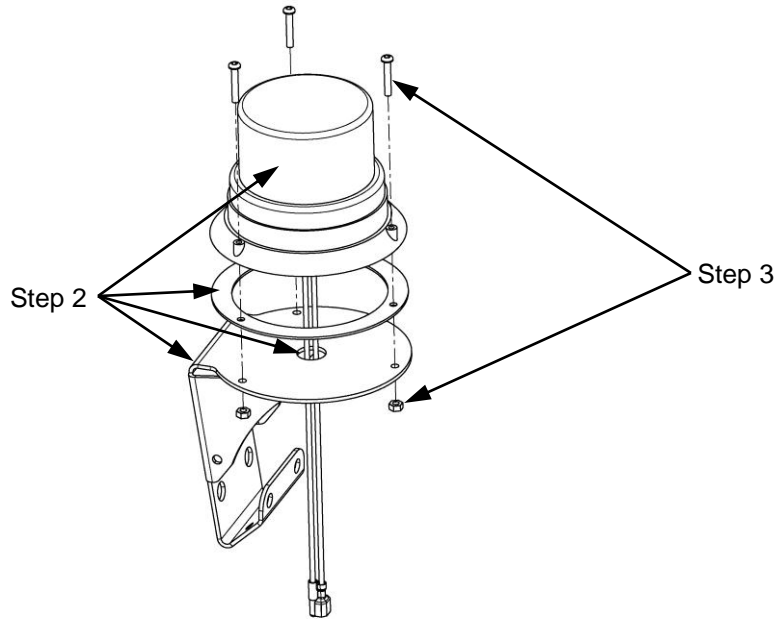

Figure 2
2. Place strobe light (Item 2) with foam seal (Item 3) onto beacon mount bracket (Item 1) and route wires through center hole in bracket (**Figure 2**).
3. Secure strobe light and foam seal ring to bracket using (3) No. 8 x 1.00" long button head screws (Item 4), and (3) No.8 nylock nuts (Item 5) (**Figure 2**).